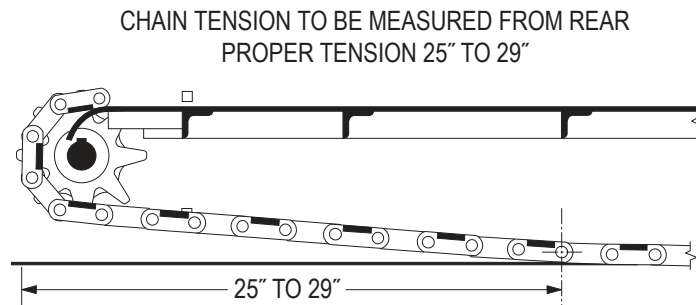

Figure 6
2. Shut the machine off and open the rear access door above the airlock. Remove any built-up material under the floor pan between the chain links and the rear catch pan so that an accurate measurement can be made. Check the tension on the floor chain in the Bark Blower as shown in Fig. 6 below: